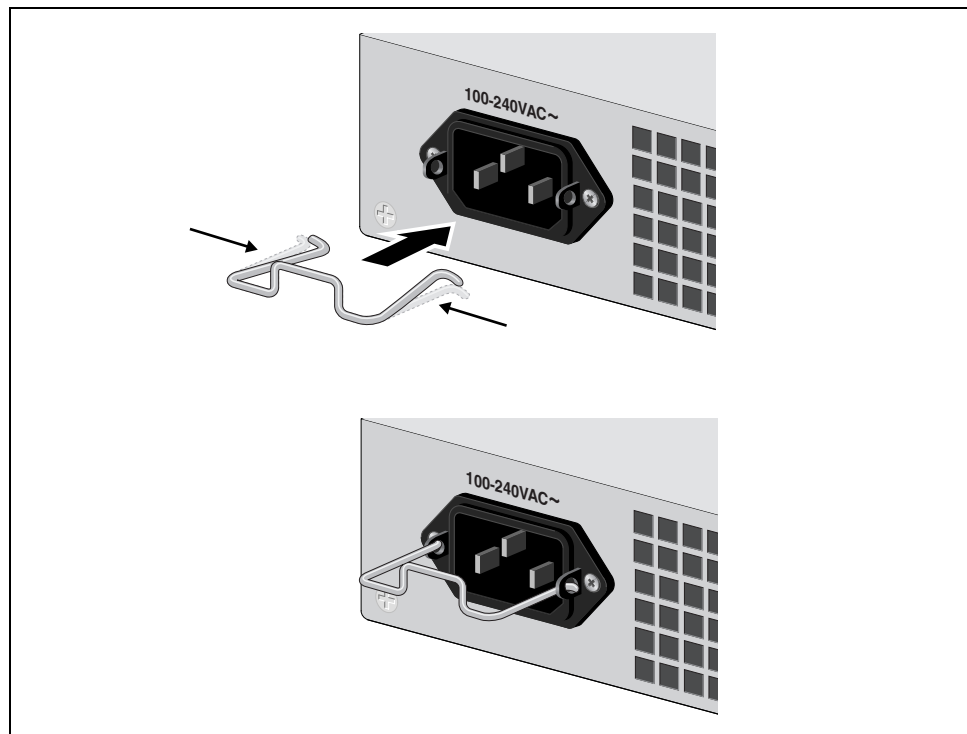

Figure 13. Inserting the Retaining Clip into the Retaining Bracket
2. Install the clip on the AC power connector on the back panel of the switch. With the “u” of the clip facing down, press the sides of the clip toward the center and insert the short ends into the holes in the retaining bracket, as shown in Figure 13.